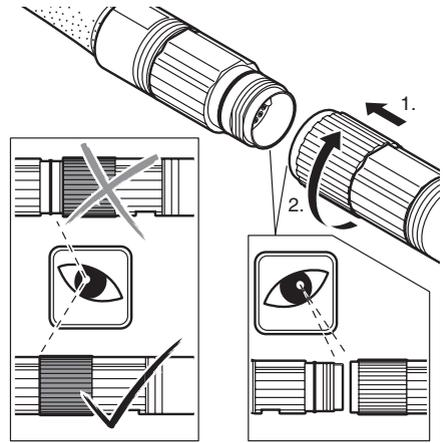

Abb. 16: Connecting the tightening spindle connecting cable with extension cable/EC motor
3. Plug the other end of the tightening spindle connecting cable according to fig. 16 on page 149, "1." onto one of the following, establishing a flush connection:
4. Screw the two parts together manually according to fig. 16 on page 149, "2.".